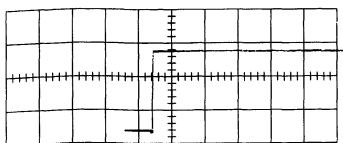
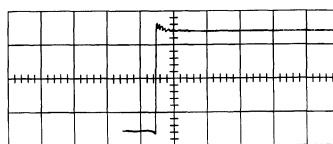

Fig 15-1 Normal
Fig 15-2 Overshoot &
Install viewing hood. Adjust Triggering Level control for stable display with trigger-point about 1/2 cm ahead of rising portion of waveform (See Fig. 15-1). Adjust Amplitude control for about 3 cm display, and position leading edge near center of graticule.
15.1.2 Waveform Check: Wrinkles, bumps, dips, or overshoot in the display, not affected by line voltage changes will require delay line and/or high frequency compensation adjustments. If the waveform appears as in Figure 15-1, proceed with risetime and bandwidth measurements. If aberrations in excess of a trace-width appear (Figs 15-2, 15-3) complete the adjustment procedure 15.5 before continuing.